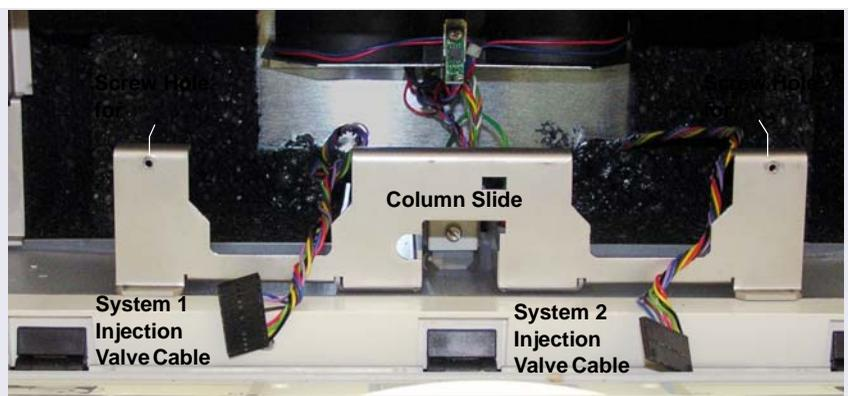
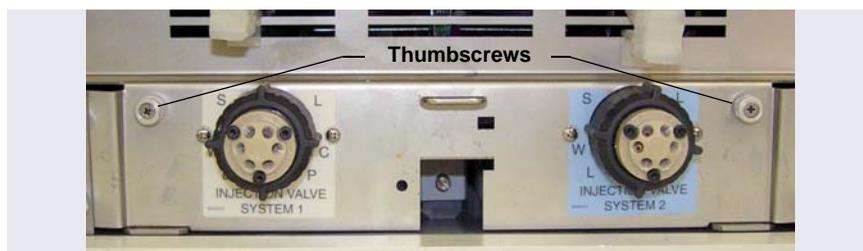

Figure B-21. DC Lower Compartment Column Slide and Injection Valve Cables
Figure B-22. DC Lower Compartment Injection Valve Panel: Dual-Valve Configuration
3. Pull the column slide forward (see Figure B-21).
4. Connect the system 1 injection valve cable (labeled **SYS 1**) (see Figure B-21) to the connector on the back of the system 1 valve (left side). For a dual-valve panel, also connect the **SYS 2** cable to the system 2 valve (right side).
5. Align the captive thumbscrews on the panel (see Figure B-22) with the screw holes on the column slide (see Figure B-21).